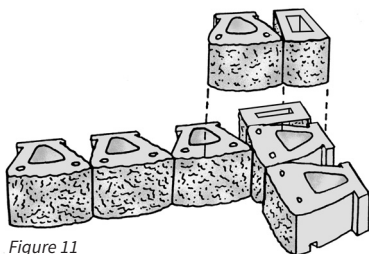

Figure 11
**Inside Corners:** If your wall has inside corners, Stonewall gives you several choices here as well. You can build them as a concave curved wall or at 90°. When building them at 90°, one method is to abut one of the walls against the other using half blocks in every other course to keep it flush to the adjoining wall. The second way ties the walls into each other by overlapping block from one wall into the other in alternating courses. Be sure to apply construction-grade adhesive to the blocks in the corner in every course (Fig. 11).